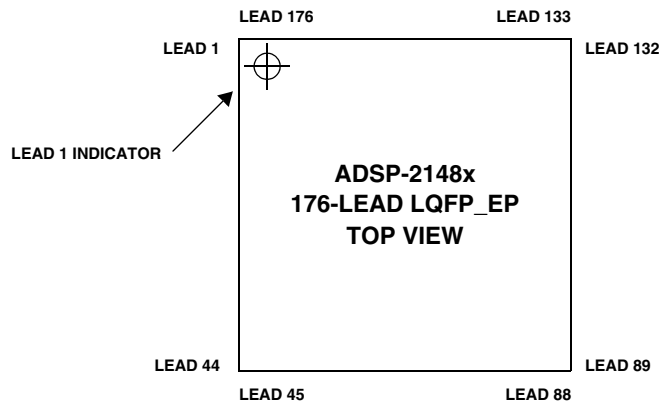
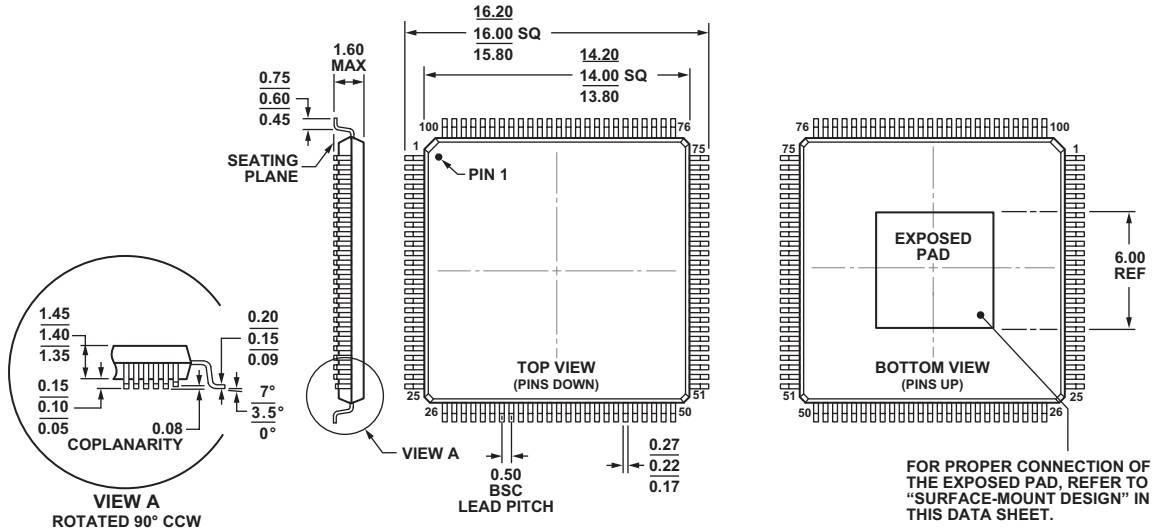

Figure 50. 176-Lead LQFP_EP Lead Configuration (Top View)
Figure 51. 176-Lead LQFP_EP Lead Configuration (Bottom View)
* Lead no. 177 (exposed pad) is the GND supply (see Figure 50 and Figure 51) for the processor; this pad must be **robustly** connected to GND.
Figure 50 shows the top view of the 176-lead LQFP_EP lead configuration. Figure 51 shows the bottom view of the 176-lead LQFP_EP lead configuration.